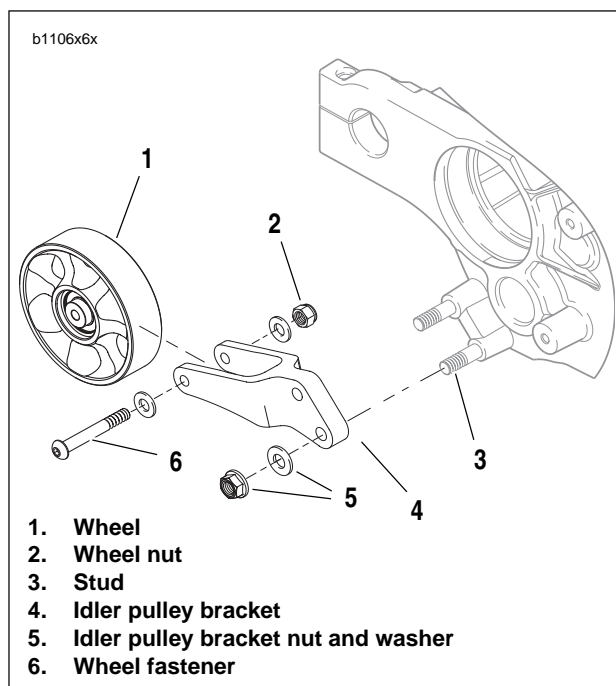

Figure 1-26. Idler Pulley Assembly
4. See Figure 1-26. Remove idler pulley bracket nuts and washers (5) from studs (3).
5. Slide idler pulley bracket (4) off studs (3).
6. Inspect pulley by spinning wheel (1) and checking for wheel bearing wear.
7. If pulley wheel needs replacement, remove fastener (6), washer and nut (2) from idler pulley bracket (4) and discard wheel. Replace with **new** pulley wheel (1).
1. See Figure 1-26. Install new or existing pulley wheel (1), if removed, and tighten washer and nut (2) wheel fastener (6) to 96-120 **in-lbs** (11-14 Nm).
2. Slide idler pulley bracket (4), washer and nuts (5) on to studs (3) and tighten to 33-35 ft-lbs (45-47 Nm).